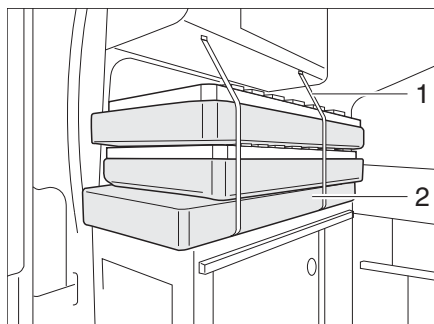

Fig. 45 Dismantling
- Stack the cushions, mattresses and slatted frames (Fig. 45,2) onto each other.
- Secure everything using the belt (Fig. 45,1).